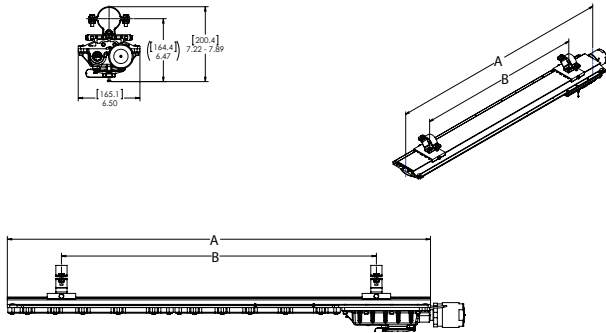

Figure 6. PM KIT – Pole Mount Installation
3. Pole mount brackets may be spaced as required; for the four foot, it is required to keep them at least 18" (457mm) apart (see Figure 6) (see table for full mounting range).
4. Slide the two (2) pole mount brackets onto the fixture, engaging the flange on the top of the fixture.